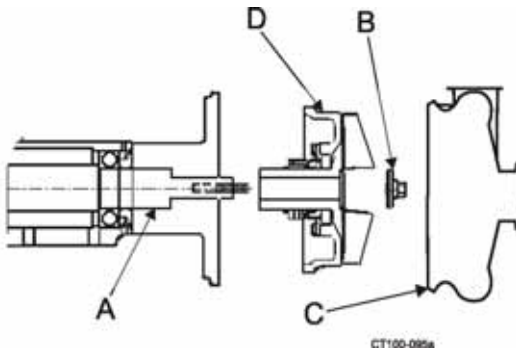

Figure 48 - Removing the Impeller Assembly
4. Remove casing clamp and casing (Figure 48, item C). Slide O-ring off of backplate.
5. Remove impeller retainer nut and shaft O-ring (Figure 48, item B).
6. Pull impeller/backplate assembly off bearing housing shaft (Figure 48, items D and A).